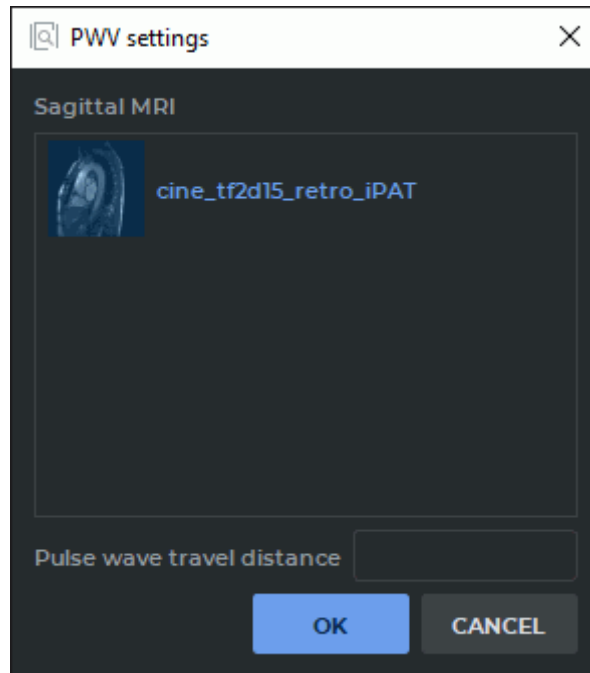

Figure 2.51: The **PWV settings** dialog box
If there is no sagittal plane series in the study, but the pulse wave travel distance is known, it can be entered manually by the user in the **PWV settings** dialog box (Fig. 2.51). For details see Section 2.20.7.
3. Go to the **PWV** tab. When you first click on the **PWV** tab the **PWV settings** dialog box is displayed (Fig. 2.51).
- In the **PWV settings** dialog box (Fig. 2.51), you will see the list of the series opened in the current study window, except for those that have been selected as the PC MRI and MAG MRI. Select a sagittal plane study series.